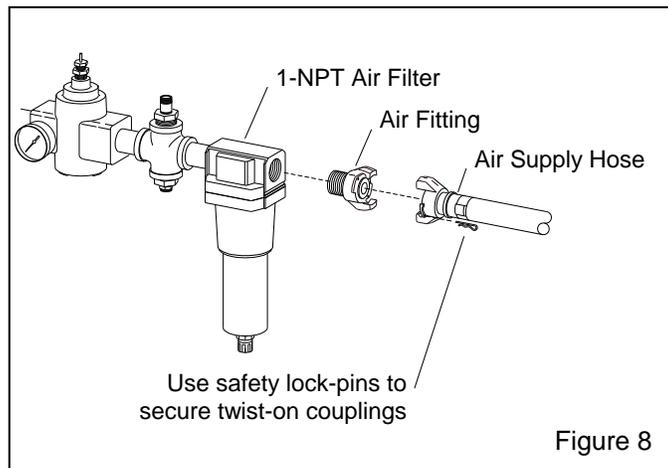

Figure 8
2.9.1 Apply thread sealant to the male threads of an air fitting that is compatible with the air supply hose fitting, refer to Section 2.9.2, and install it onto the 1-NPT air filter located at the blast machine inlet, as shown in Figure 8. Note that the style of connection shown is for reference only.